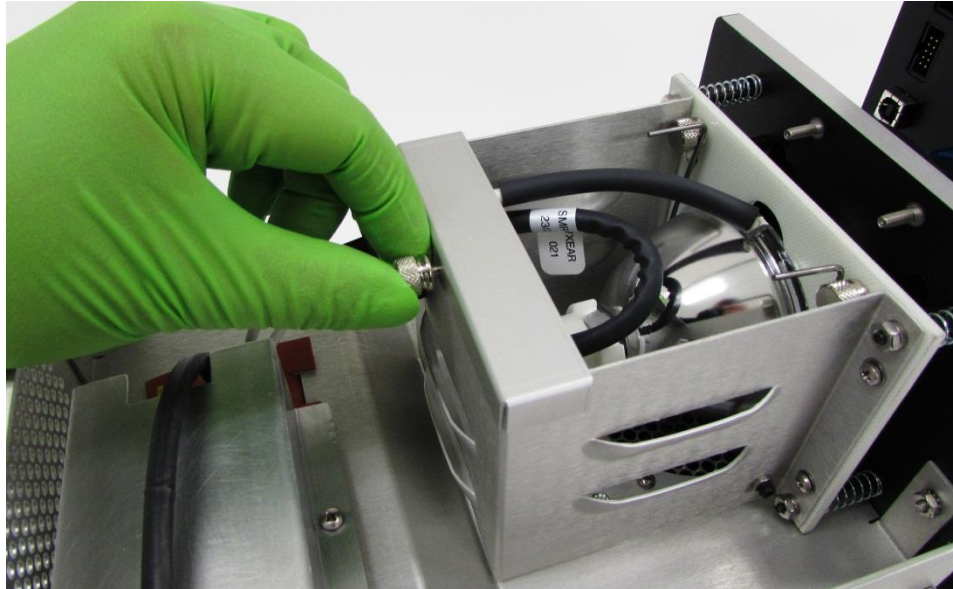
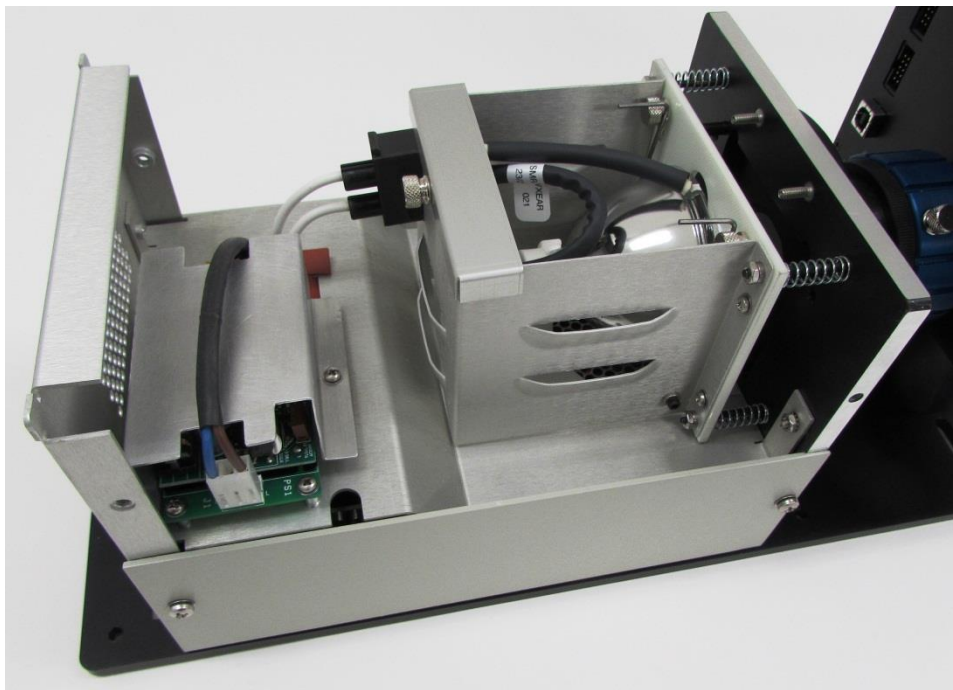

Figure 16: Re-attach Lamp Cable Holder
Figure 17: Completed Lamp Installation
9. Re-attach the lamp cable holder which was set aside earlier by tightening the thumb screw as shown in Figure 16. The completed lamp installation is shown in Figure 17.